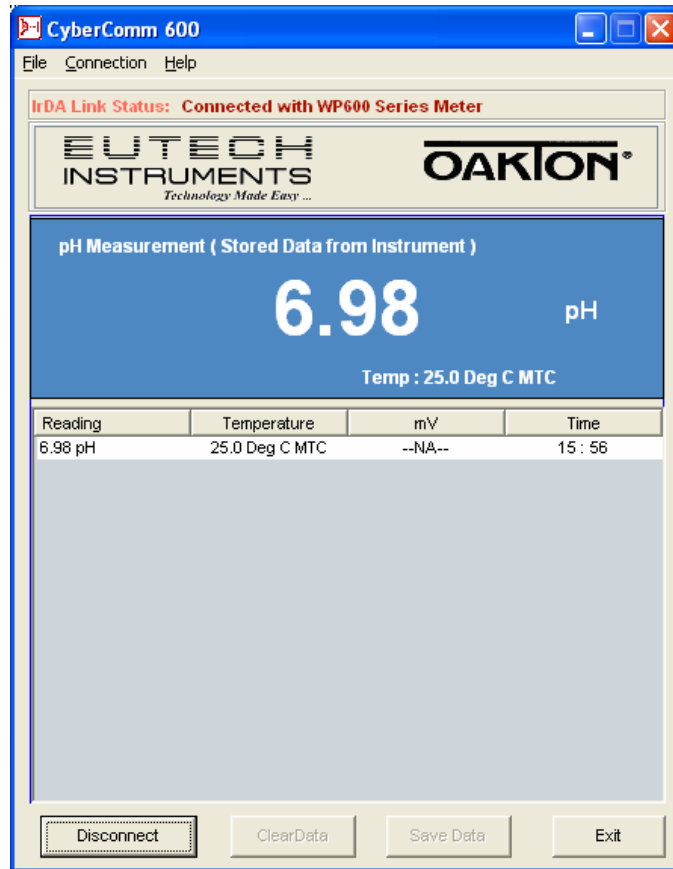

Figure 26 : Transfer Stored data to CyberComm
9. The CyberComm establishes connection with meter through IrDA and sends the data. (Figure 26)